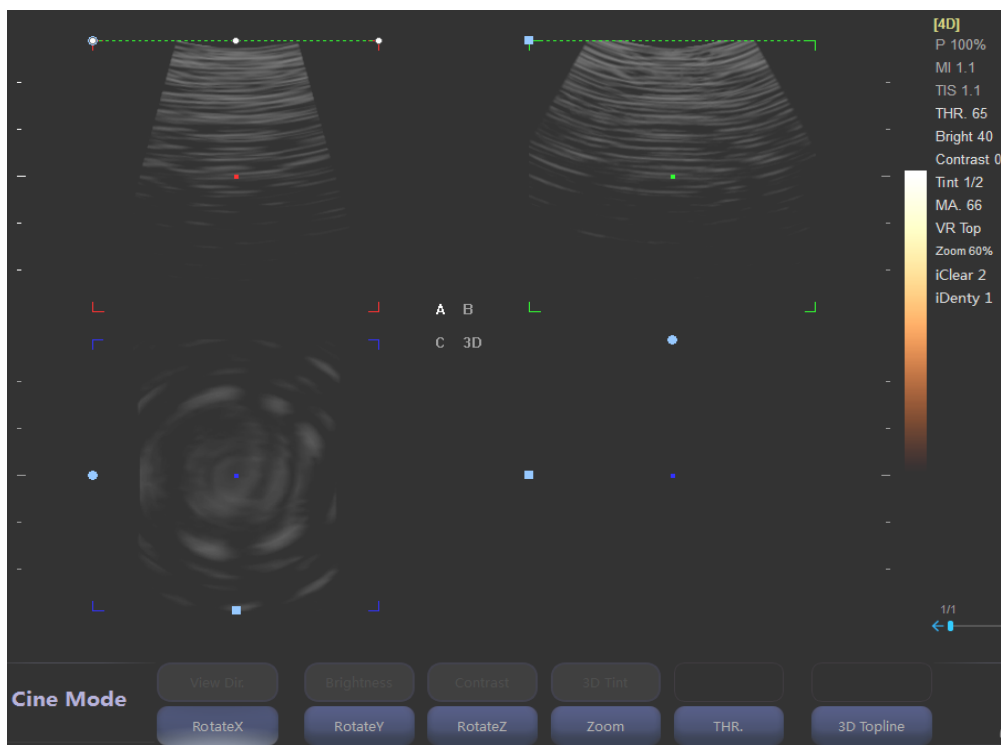

Figure 4.2.1 Real-time 4D Scanning Interface
(1) Start 4D Scan: Press 【Update】 button to Start 3D/4D scanning. real-time images of different dimension sand 4D image are shown in Figure 4.2.1